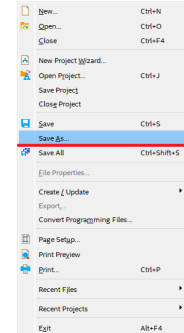

Figure 12: Save new file
3. Save the file with the name "test.v". (naming is not limited) (Figure 12)